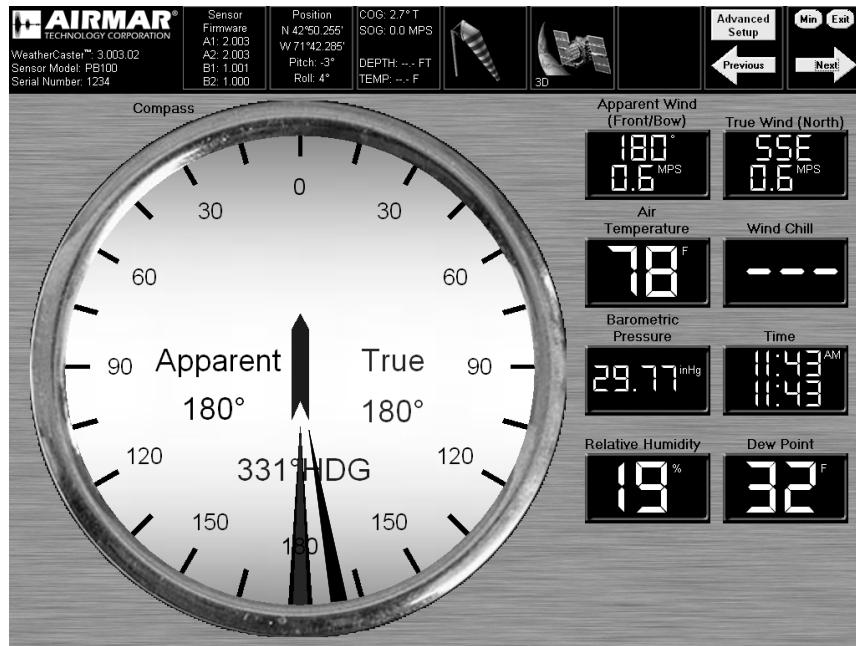

Figure 26. Large Compass and Digital Readout Screen
- Large Compass and Digital Readout Screen—This screen displays a large compass on the left and data being sent from the sensor(s) in digital format on the right (see Figure 26 on page 29).
To view the Large Compass and Digital Readout Screen, click the Next arrow at the top right of the display. This screen shows a large compass on the left and readings in digital format on the right (see Figure 26). This screen does *not* display historical data.
The Compass displays the true wind direction, the apparent wind direction, and the heading (see Figure 26).
The right side of the screen displays some or all of the following readings depending upon the sensor(s) installed and selected (see Figure 26):